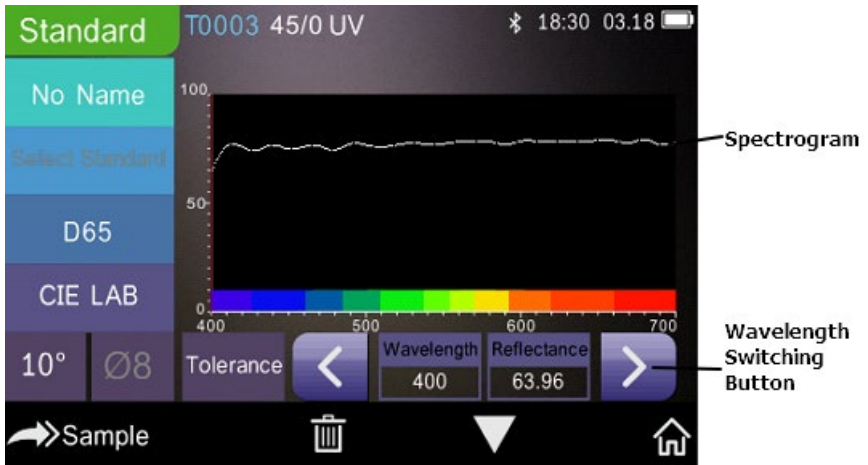

Figure 11 Reflectance of Standard Measurement
4. There is a “Beep” sound, and the LED indication light will turn to green from yellow, then it shows measurement finished as shown in Figure 10 and in Figure 11.
15) Wavelength switch button: As shown in Figure 11, click “” or “”, the wavelength and reflectance of the current sample will switch as range of 10nm interval.